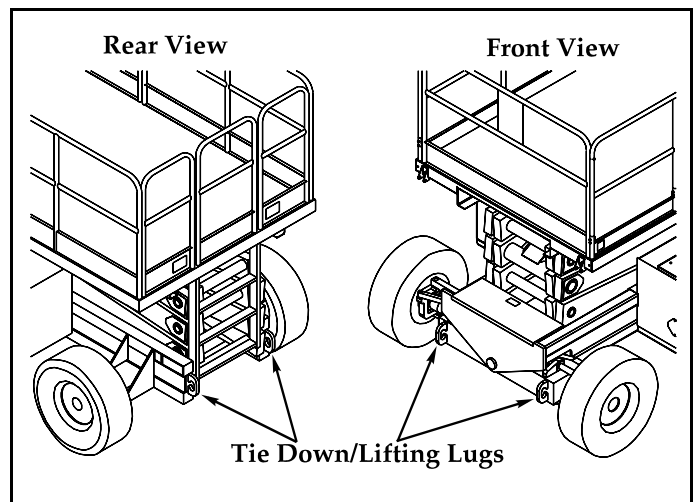

Figure 7: Transporting Work Platform
1. Secure straps to chassis tie down/lifting lugs only (Figure 7).